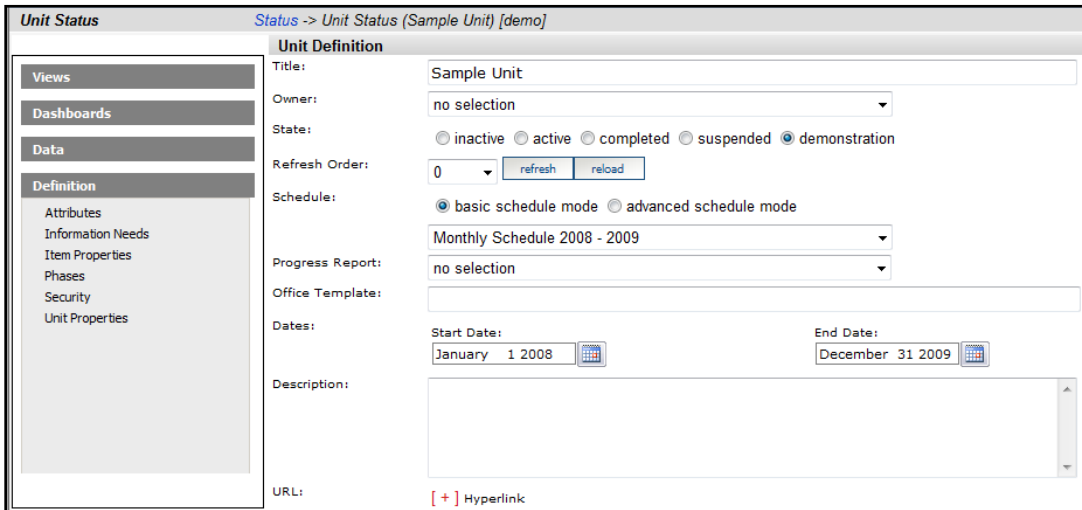

Figure 21
5. Click the Unit Properties command (Figure 21)